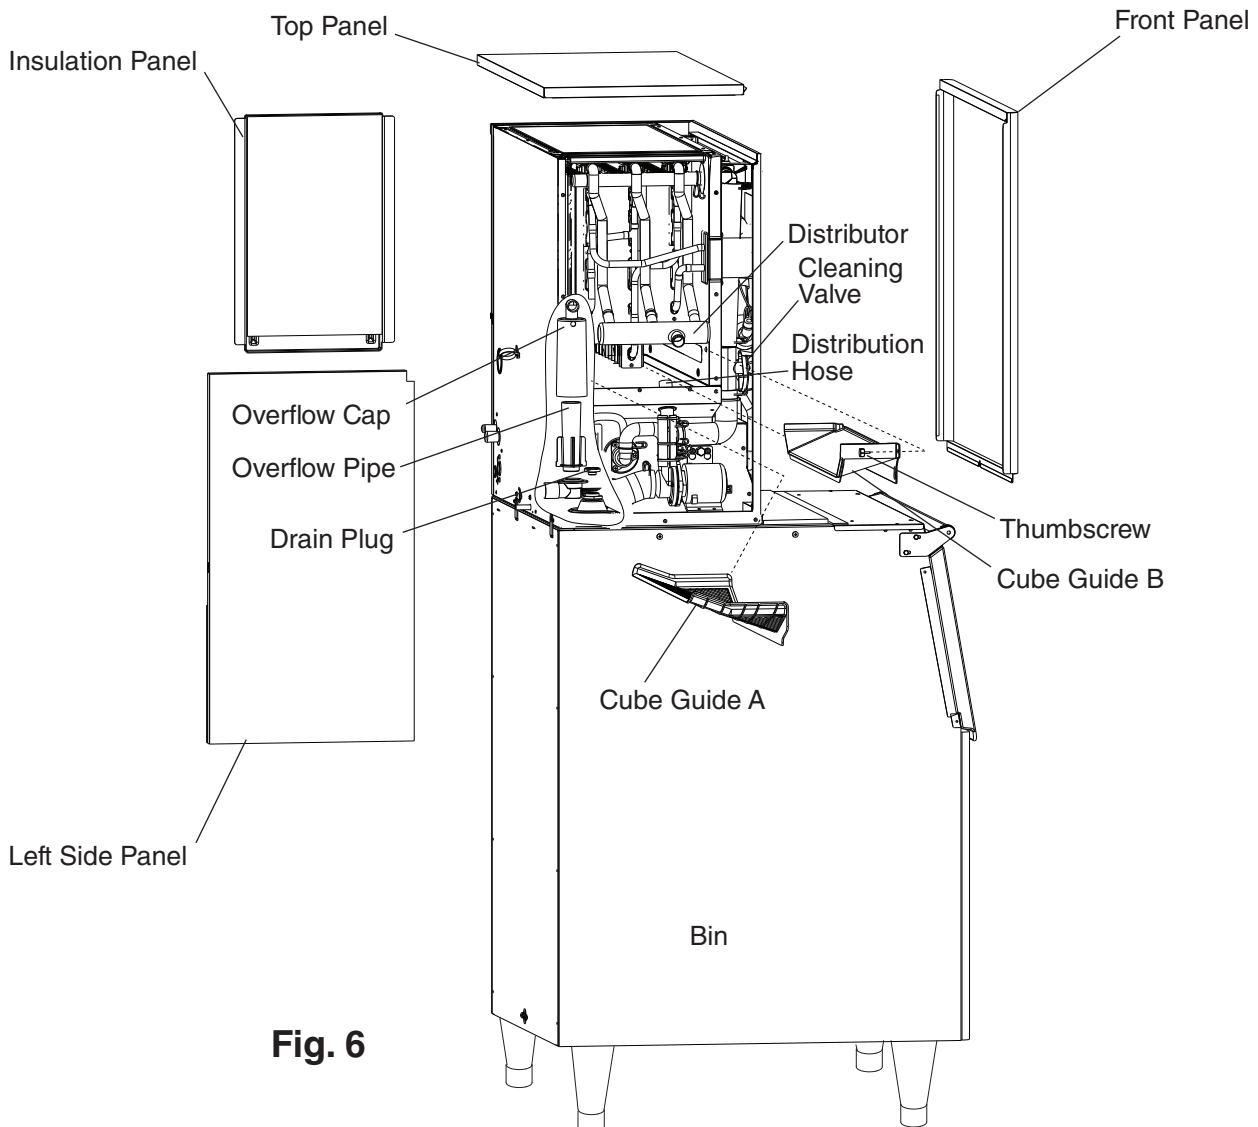

Fig. 6
- 5) Disconnect the distributor from the distribution hose. Remove the thumbscrew securing cube guide B. Remove cube guide B and cube guide A. See Fig. 6.